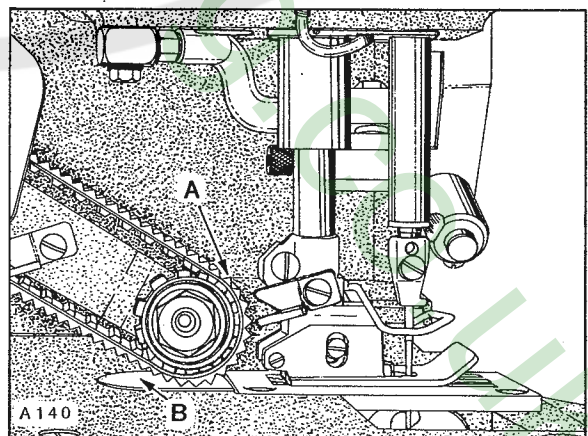

Fig. 37
Belt Puller (A, Fig. 37) must be setting evenly on cloth plate (B). On Style XF511E152MF Belt Puller will rest on "AIR-KLIPP" inlet.